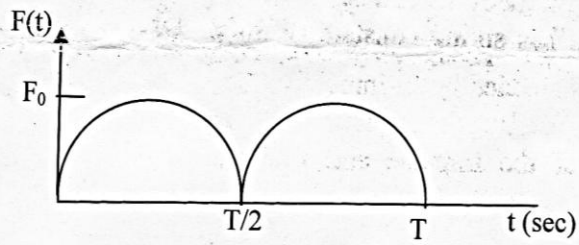

Fig.3
Q.4 (a) A single spring mass system has spring constant of 2500 N/m and mass of 25 kg. If it is loaded by a periodical load for which a single period is as shown in the Figure 3, derive the equation of the response using Fourier series. 07